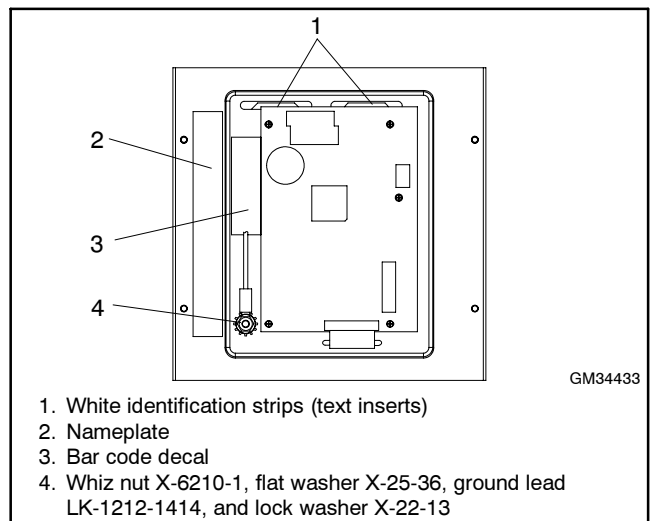

Figure 14 RSA Front Panel Assembly Ground Connection (Back View)
3.2 Remove four screws X-67-154 from the RSA front panel assembly GM34433-1 or GM34433-2. Detach the RSA front panel from the box by removing whiz nut X-6210-1, flat washer X-25-36, and ground wire LK-1212-1414 at the front panel cover; see Figure 14.